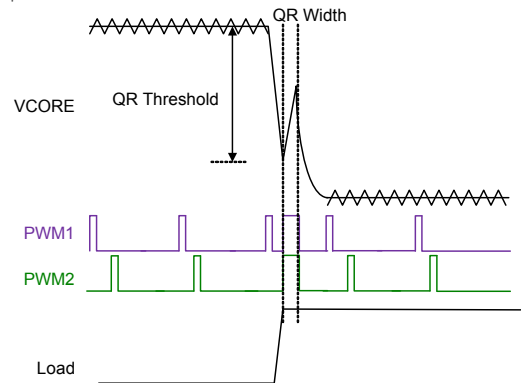

Figure 25. Quick Response Mechanism
**Quick Response (QR) Mechanism**
When the transient load step-up becomes quite large, it is difficult for loop response to meet the energy transfer. Hence, that output voltage generate undershoot to fail specification. The RT3601BJ has Quick Response (QR) mechanism being able to improve this issue. It adopts a nonlinear control mechanism which can disable interleaving function and simultaneously turn on all UGATE one pulse at instantaneous step-up transient load to restrain the output voltage drooping. Figure 25 shows the QR behavior.